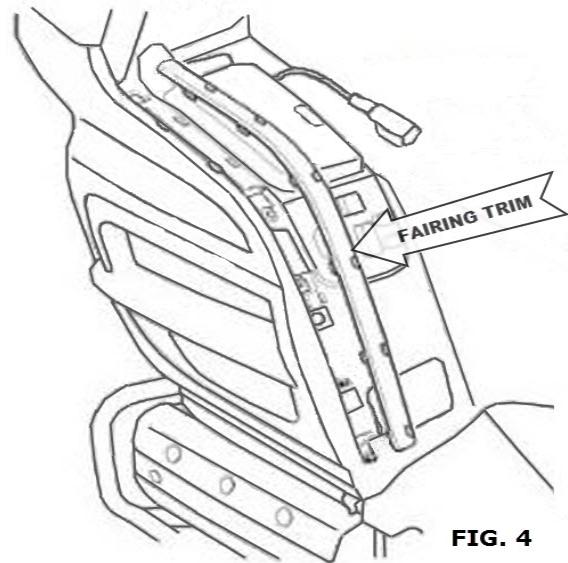

FIG. 4
10. REMOVE THE FAIRING TRIM FROM BOTH SIDES OF THE FAIRING. CAREFULLY PRY FROM UNDER EACH FAIRING TRIM BEING CAREFUL NOT TO SCRATCH THE PAINT OR DAMAGE THE FAIRING TRIM. (SEE FIG. 4)